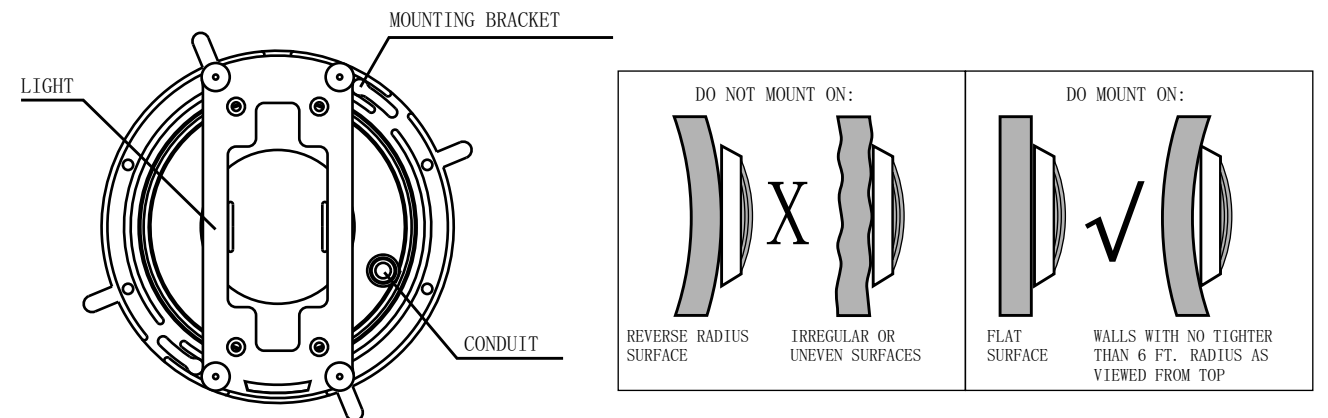

Figure 2.
2. Connect conduit to midst of Mounting Spacer (left of Bracket),see Figure 2.